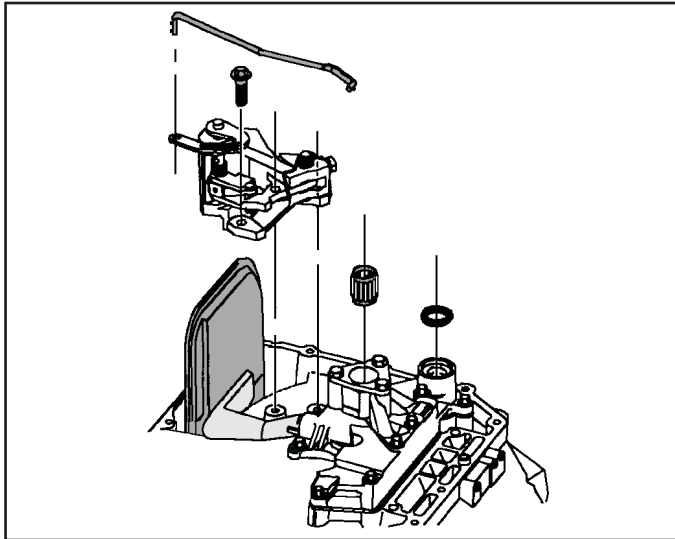

Figure 189
1. Install a new pump to case O ring on the pump assembly and secure with petroleum jelly (See Figure 189).
2. Install the stator shaft caged needle bearing into the pump housing and lubricate with transmission fluid (Figure 189).